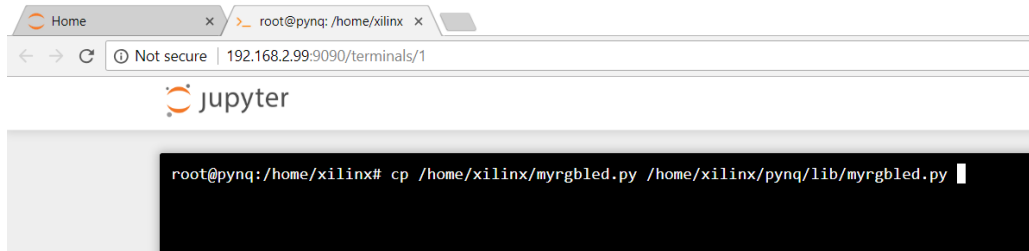

Figure 2: Copying a file in PYNQ
- To paste the new driver into the **PYNQ** driver library folder, type the command as shown in Figure 2 into the terminal. This command places a copy of “*myrgbled.py*” located in the top level folder into the driver library folder. Moving forward, you will need to perform this copy operation every time you make an edit to your driver and are ready to run it in the Notebook. You will do all of your editing outside of the **PYNQ** driver library and paste/overwrite to update the file in the driver library.